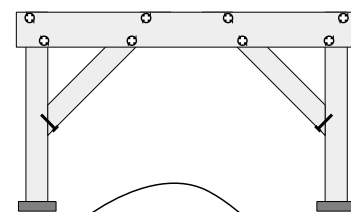

fig. 3
- 5) Glue and screw the stabilizers in place inside the front/back and down to the legs – fig. 3.
- 6) Set the hive stand in the desired position. Note the location of the feet. Remove the stand and use a shovel to shave off any vegetation under the stand feet. Place the pavers or bricks in the cleaned areas and replace the stand – fig. 3.